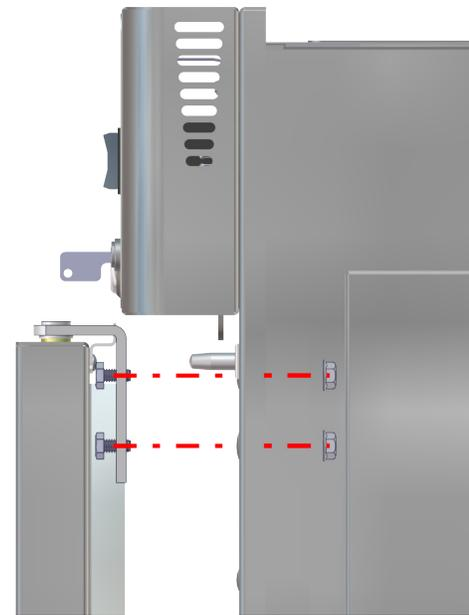

Fig. 16: Attach hinge - top
17. Insert the screws into the top hinge and then insert the hinge pin into the top socket of the door, aligning the hinge screws with the top hinge holes on the unit as shown in Fig. 16.